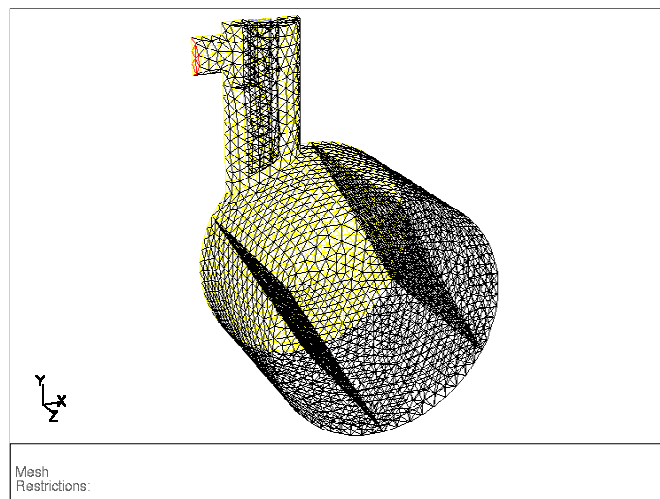

Figure 1.1: Boundary Mesh
- (b) Click Display (Figure 1.1).